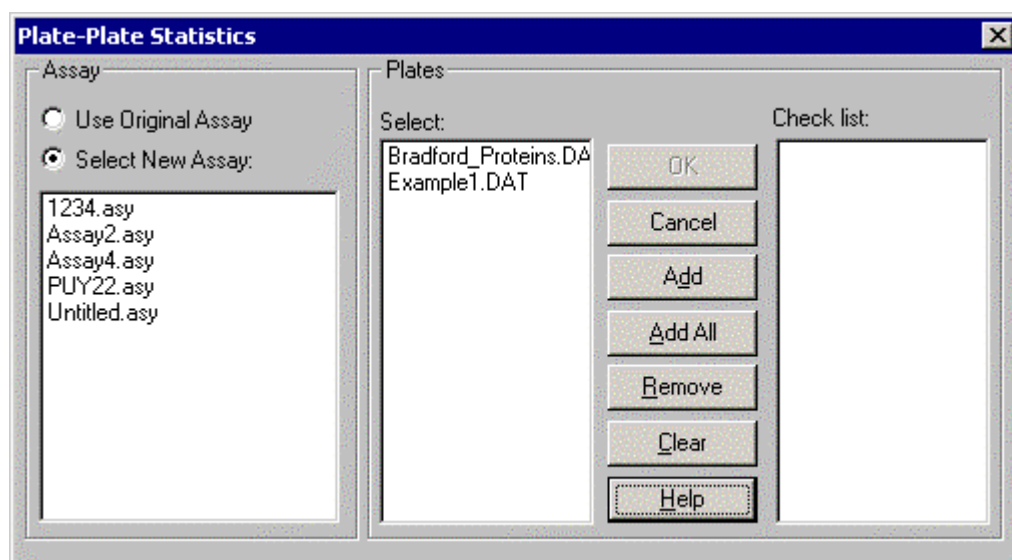

Figure 4-6 The Plate-Plate Statistics Dialog Box
**Plate-Plate Statistics** presents the *Plate-Plate Statistics* dialog box (Figure 4-6), which is used to compare data from one plate to data from another plate and use the plate data from one test with the data processing options of another test. The Plate-Plate statistics command allows you to compare plate data to find out the mean, standard deviation, coefficient of variation and standard error mean for designated types or areas of wells.